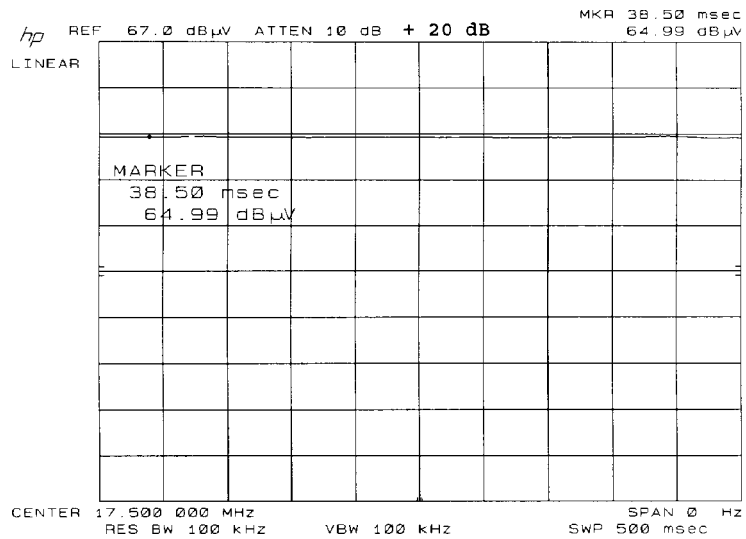

Figure 4-12. Quasi-Peak Measurement of a Broadband Signal
- Press **PEAK SEARCH** and read the marker amplitude on the display. Refer to Figure 4-12.